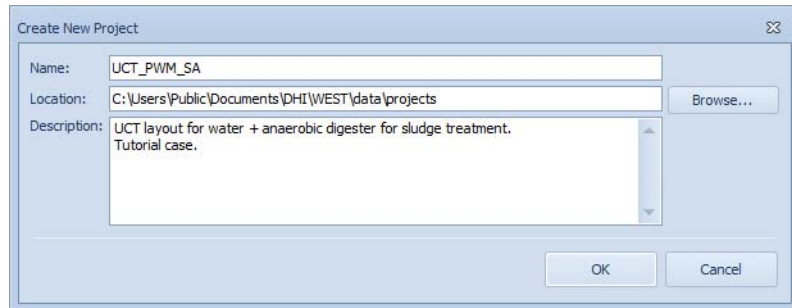

Figure 13.1 Create New Project dialogue, to create the PWM_SA experiment from the UCT template
- This will automatically create a New Project (Figure 13.1)